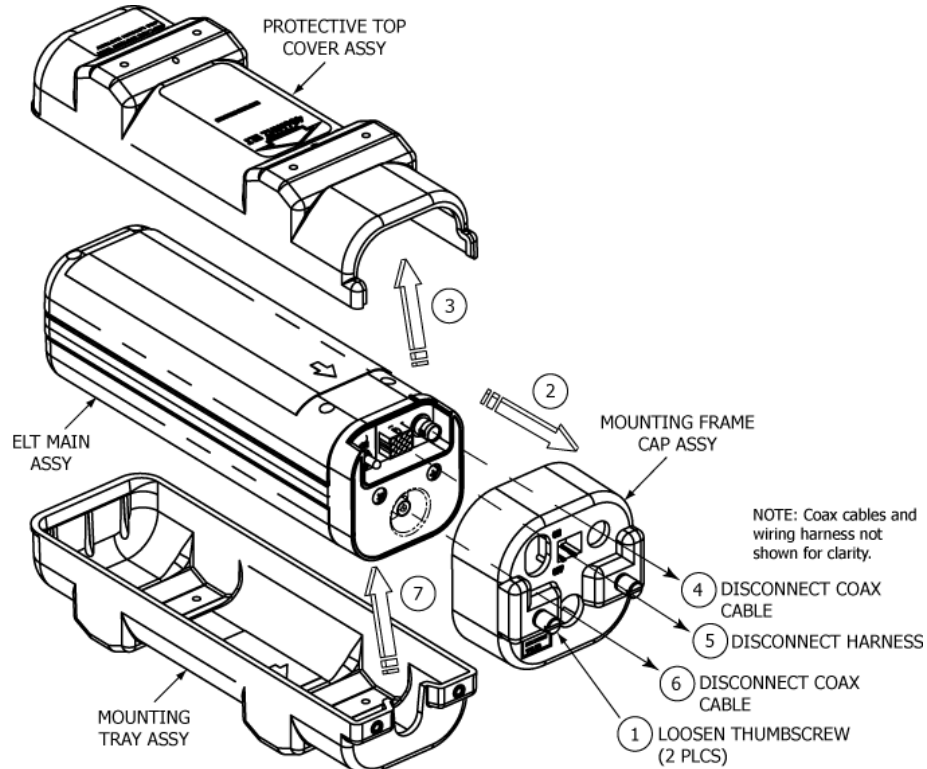

Figure 10 ELT Removal Sequence
- 1) See Figure 10 ELT Removal Sequence.